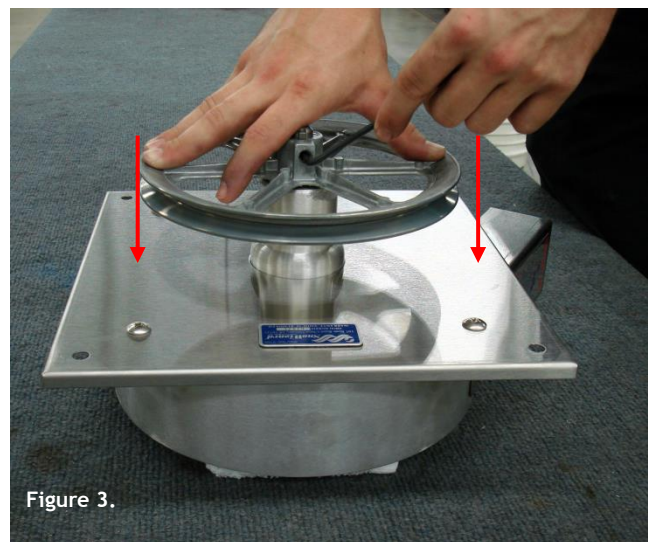

Figure 1.
2. Place the large 8" pulley on the end of the shaft and turn to align the key holes. Insert the square key and tighten the set screw on the pulley to lock the pulley onto the shaft. **See Figure 1.**